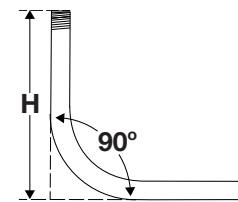

Figure 22
1. Make MARK 1 by measuring to the Target Stub Length (H). (Fig.22)